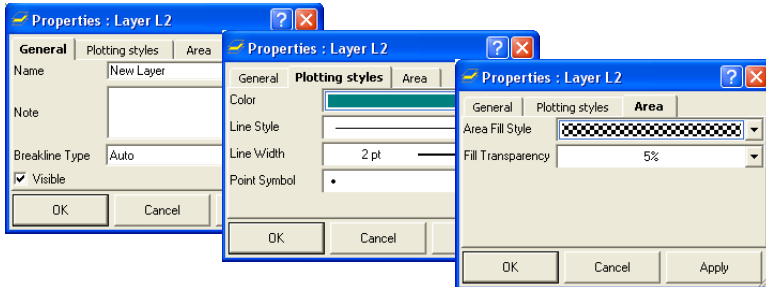

Figure 5-77. Enter and Select Layer's Attributes
2. Enter the following general information for the layer in the *General* tab (Figure 5-77 on page 5-58):
3. Select the following plotting information for the layer (Figure 5-77 on page 5-58):
4. Select the following plotting information for the area (Figure 5-77 on page 5-58):
Edit a Layer using the *Properties* dialog box for the layer (Figure 5-77 on page 5-58).